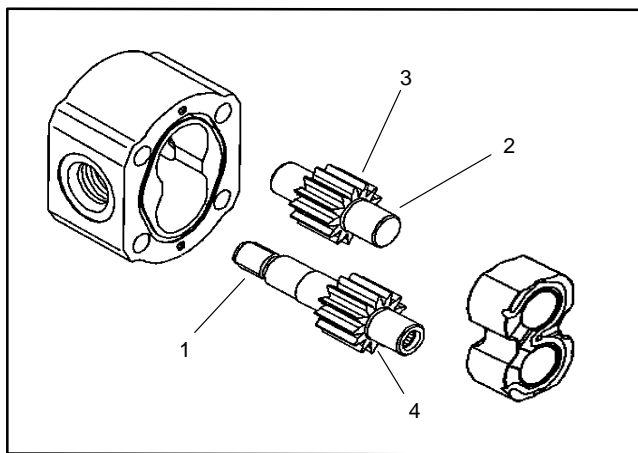

Figure 33
3. Inspect drive and idler shafts for the following (Fig. 33):